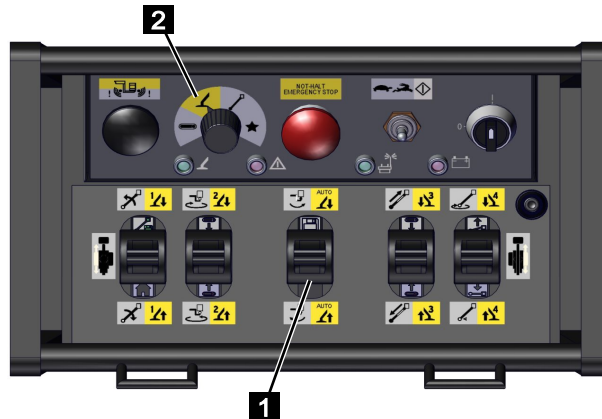

Fig. 150
3. Set the function selector to [bracing function] (yellow) (Fig.150/2).
4. Use the control levers (Fig.150/1) to move the outriggers as shown in the following table.